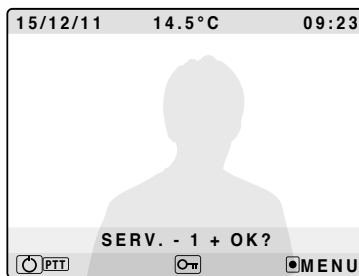

Fig. 16
- To enable the BUS relay Art. 2305 (if connected on the pass) keep pressed the button until the display shows the picture in **Fig. 16** then select the BUS relay to enable by the buttons and and confirm with **OK** button.